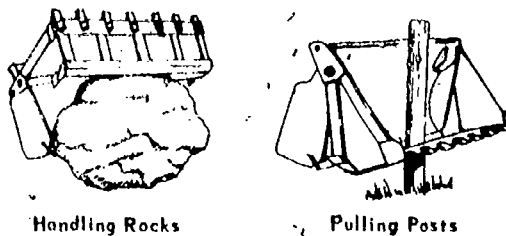

Fig 5-17. Handling rocks and pulling posts with the Drott 4-in-1 attachment.
- (5) Handling miscellaneous material. In addition to the uses described above, the Drott 4-in-1 clam-type bucket can be used to backdrag, remove large rocks, remove loose stumps, and to pull posts. Some of these operations are illustrated in figure 5-17. Use caution when performing these operations to prevent excessive shock on the clam or the hydraulic system.